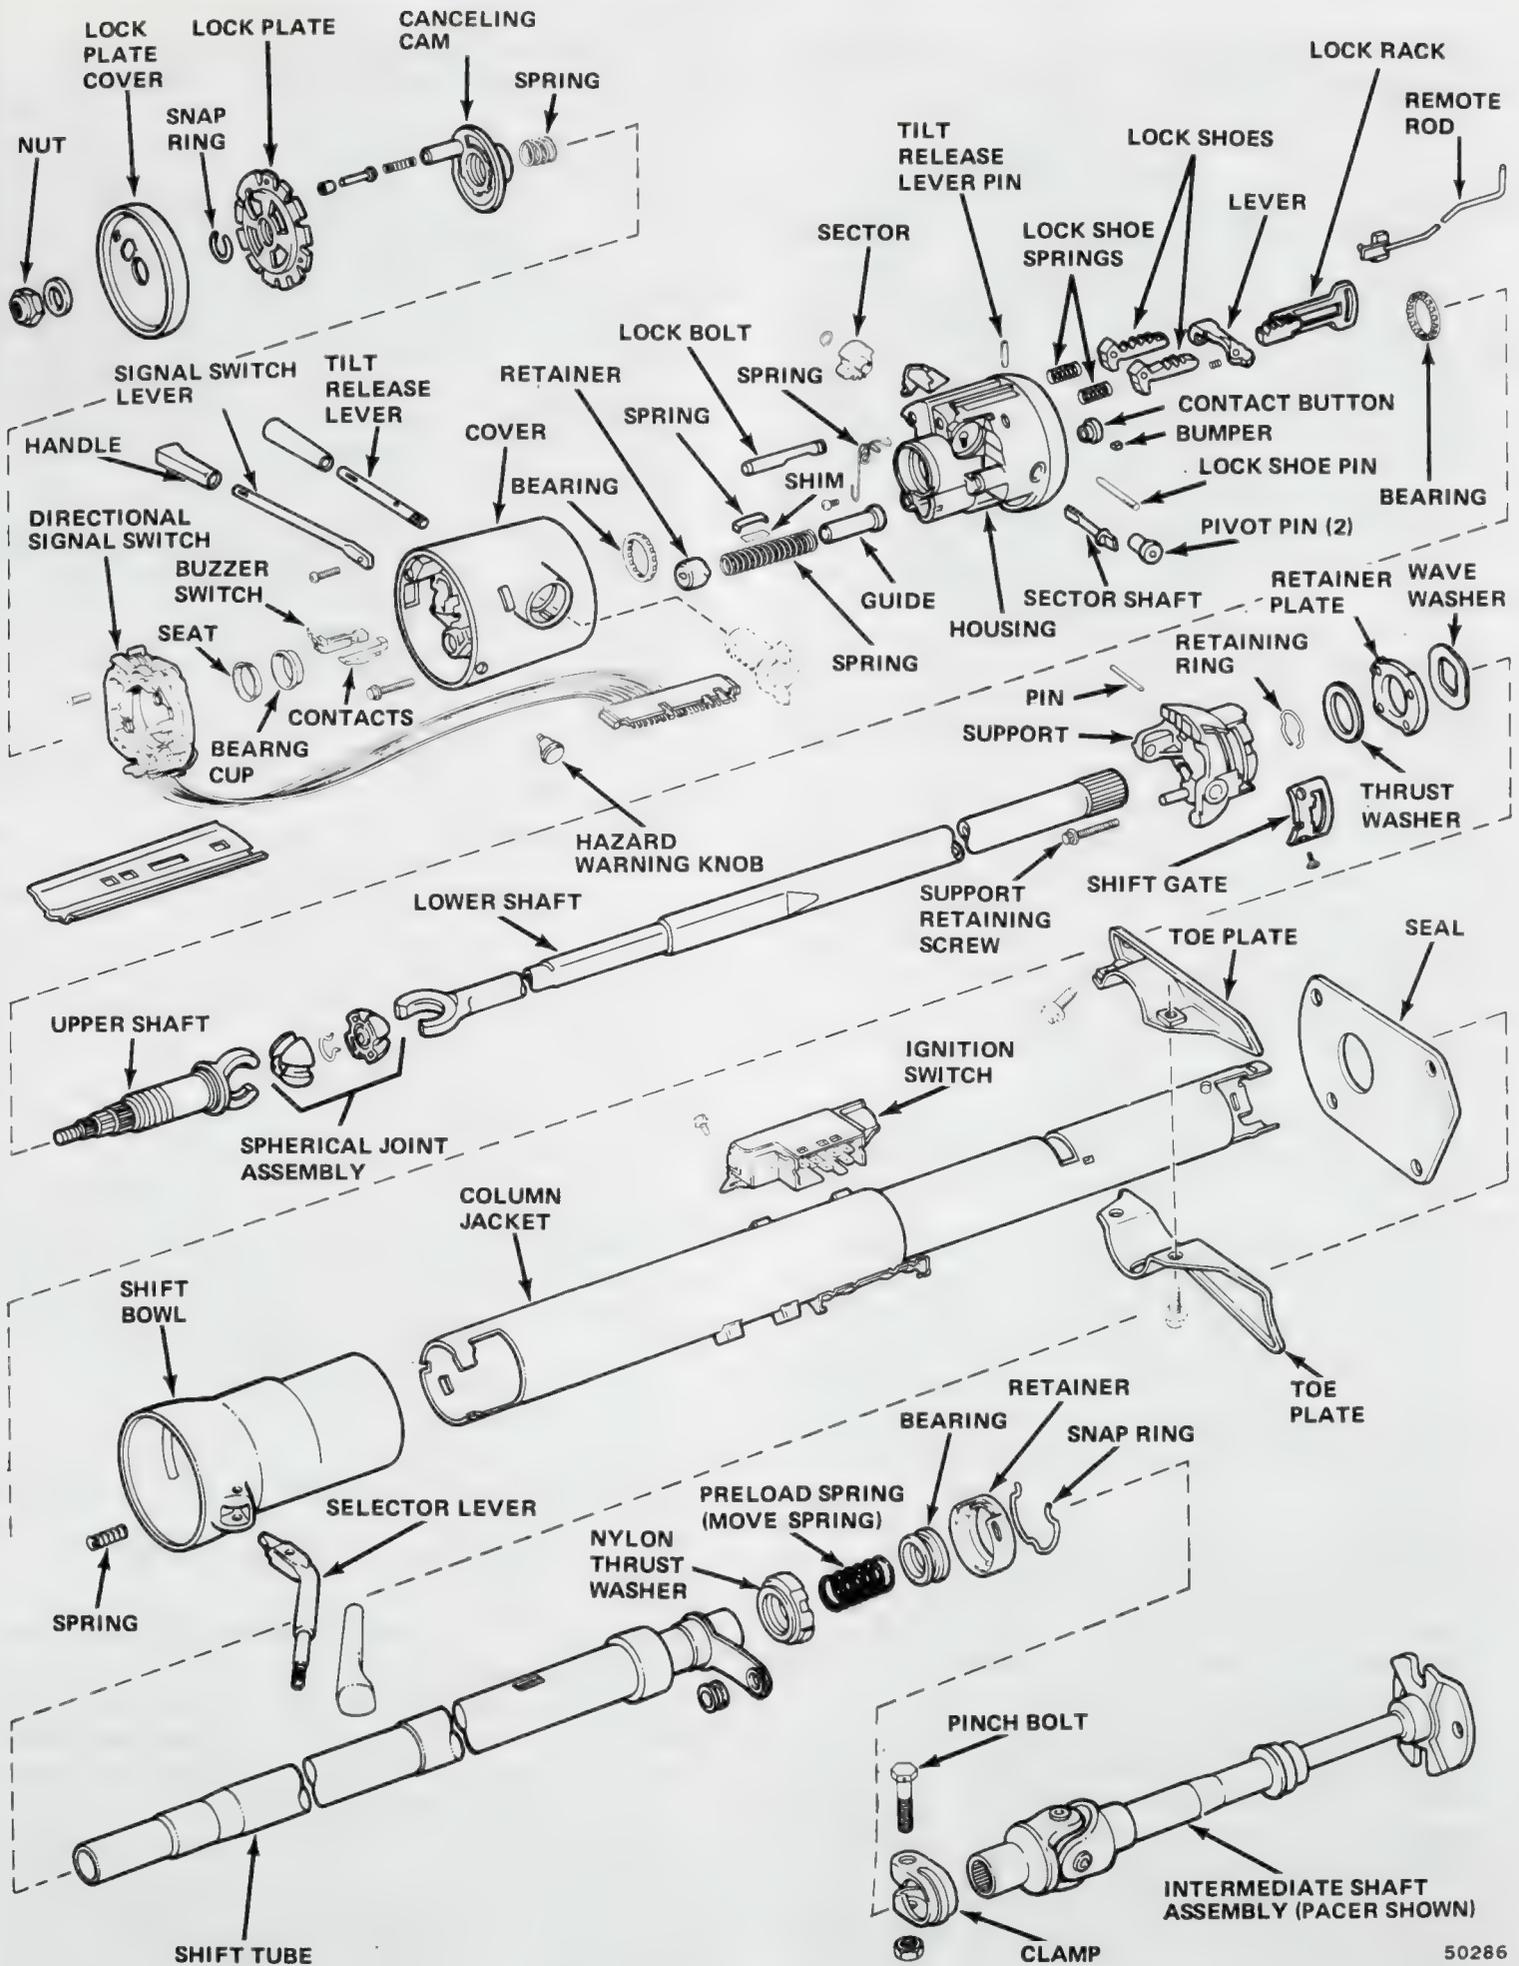

Fig. 2H-28 Tilt Steering Column
- (1) Apply chassis grease to all friction and bearing surfaces.
- (2) Position shift bowl on column.
- (3) Install wave washer and retainer plate in column.
- (4) Install shift tube in lower end of column jacket and align tube spline with shift bowl keyway.
- (5) Insert Installer Tools J-23073-2 and -4 into shift tube (fig. 2H-29).
(6) Tighten spring tension nut of tool J-23073-4 to snug fit.
(7) Position Receiver Tool J-23073-3 over puller stud of tool J-23073-4 and install puller nut on stud (fig. 2H-30).
(8) Tighten puller nut to draw shift tube into bowl (fig. 2H-30). Remove shift tube installer tools when tube installation is completed.